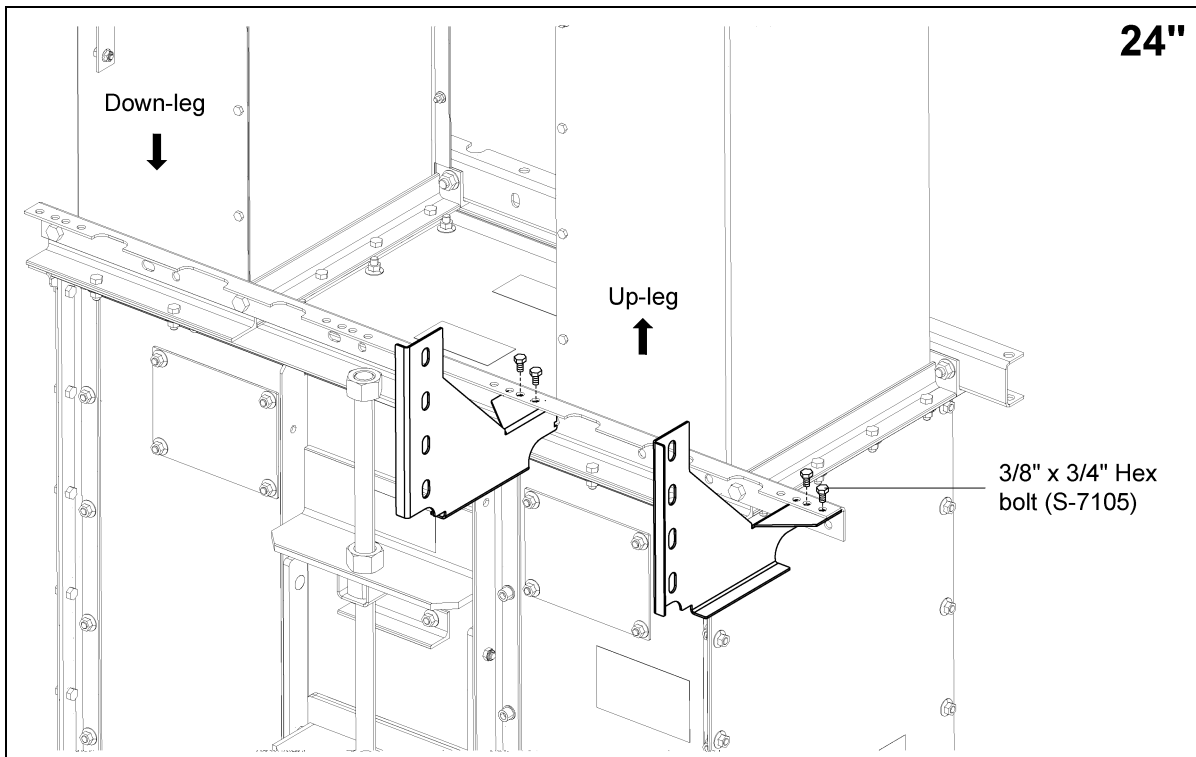

Figure 4O 24" Boot Bracket Up-Leg
- d. **If using the 24" up-leg:** Use 3/8" x 3/4" hex bolts to attach the ladder support brackets to the boot tie angle using the holes indicated in Figure 4O. Note the outer bracket uses the two (2) outer most set of holes on the tie angle.